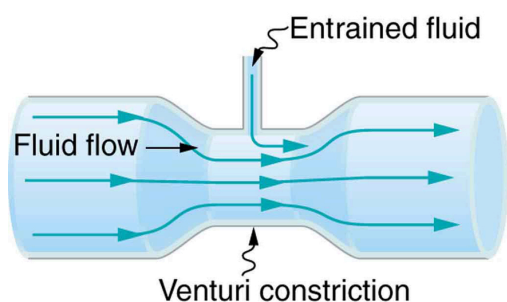

Figure 12.24 A tube with a narrow segment designed to enhance entrainment is called a Venturi. These are very commonly used in carburetors and aspirators.
- Many entrainment devices have a constriction, called a Venturi, such as shown in Figure 12.24. How does this bolster entrainment?